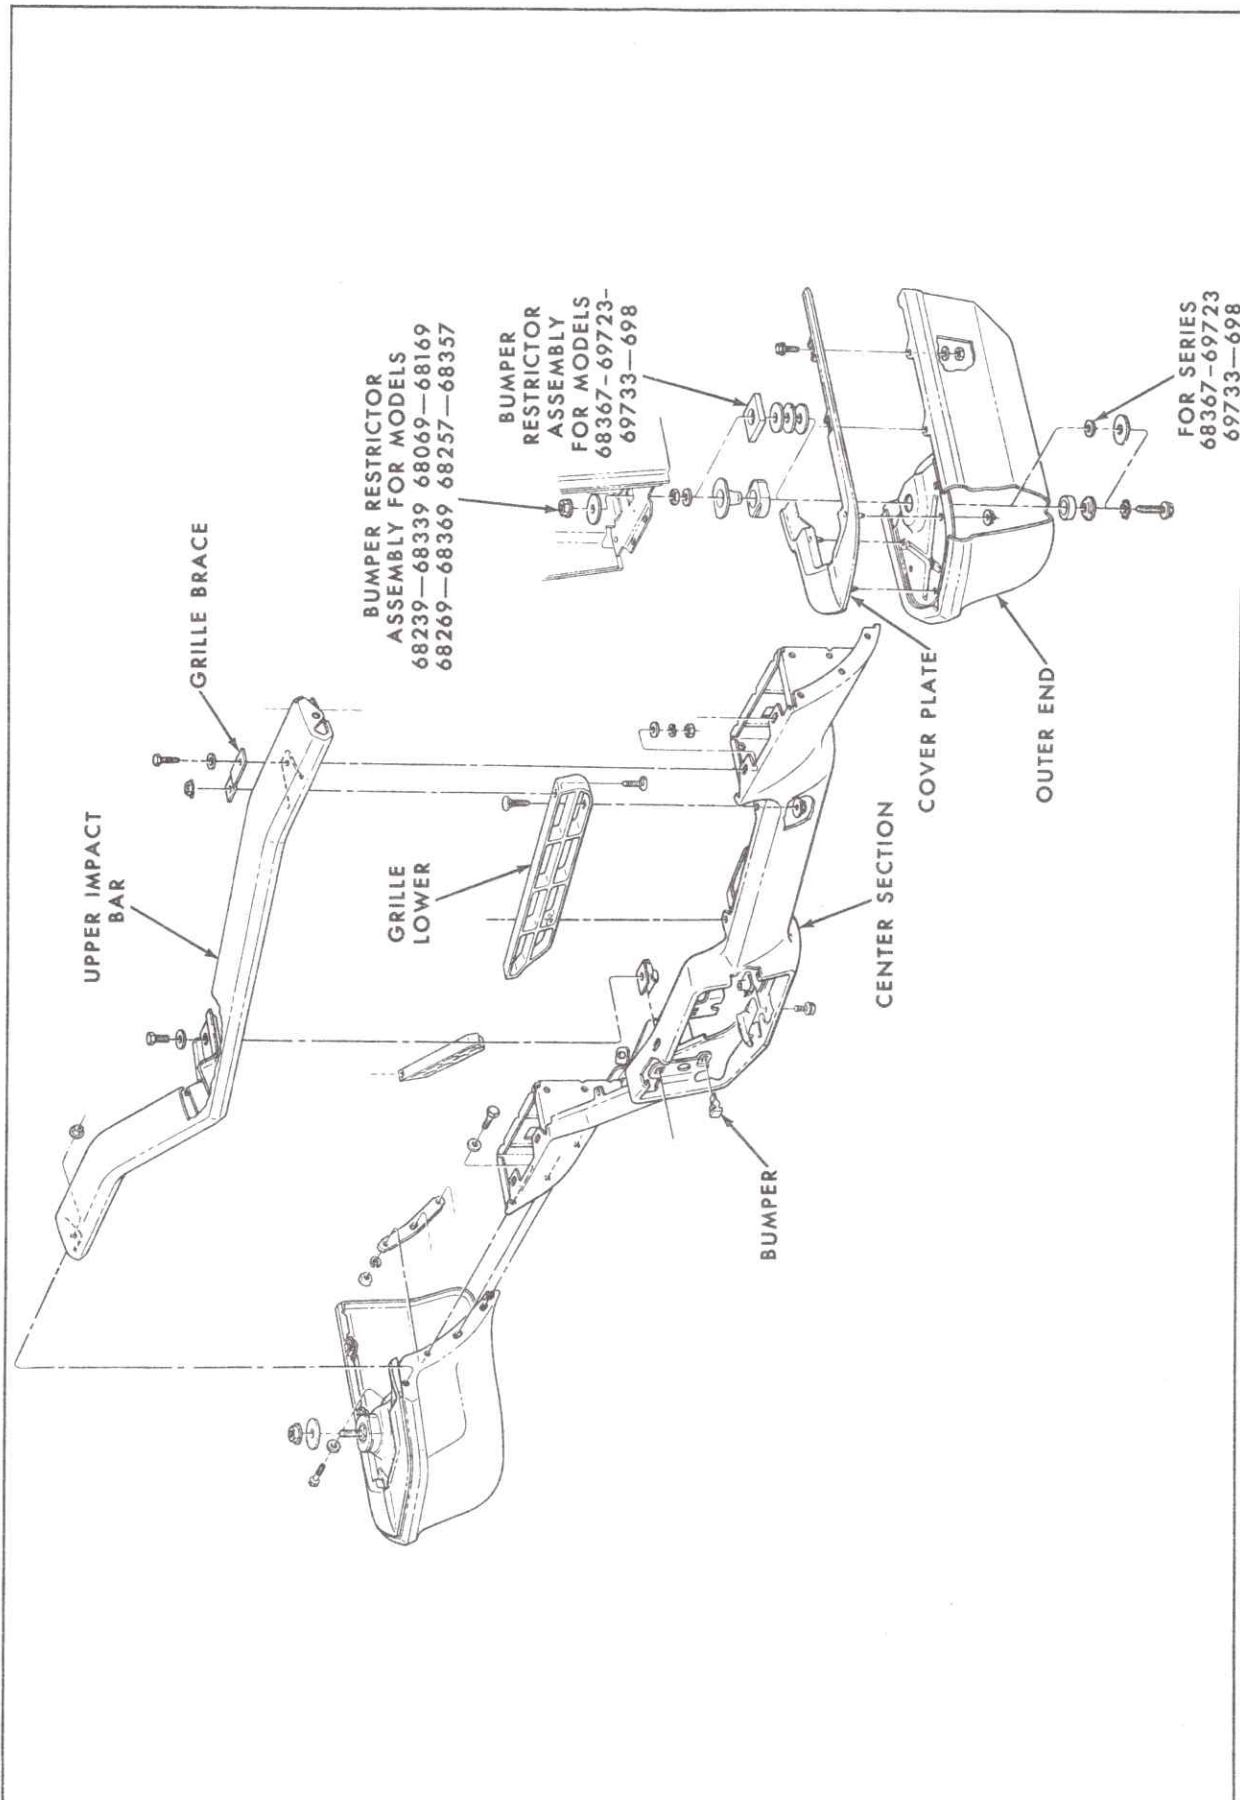

Fig. 14-2 Front Bumper - Disassembled
Right or Left****a. Removal (Fig. 14-2)**
**b. Installation (Fig. 14-2)**
Removal and Installation****a. Removal (Fig. 14-2)**
Removal and Installation****a. Disassembly (Fig. 14-2)**
**b. Assembly (Fig. 14-2)**